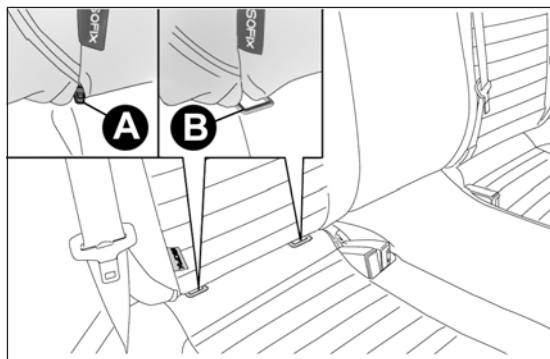

fig. 112
- attach the child seat to the special lower metal rings B fig. 112, located inside the rear seat backrest (to access the rings lift hinge A);